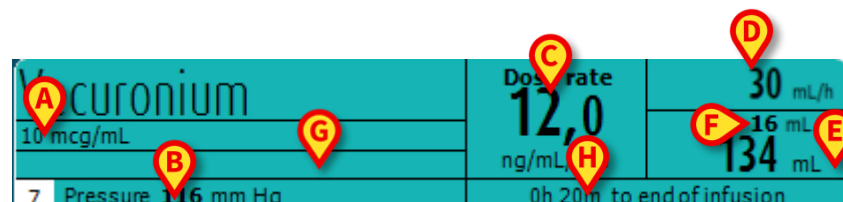

Fig 13
The box representing the pump (Fig 13) can display different kinds of data.
- drug concentration (Fig 13 **A**);
- circuit pressure (Fig 13 **B**); In the configuration a “pressure threshold” can be set up. When this threshold is exceeded the Pressure value is displayed in yellow.
- the dose rate (Fig 13 **C**); or the target dose when working in pharmacokinetic mode. In this case the “target” icon shown in Fig 5 is displayed as well.
- the volume rate (Fig 13 **D**);
- the total infused volume (Fig 13 **E**);
- volume remaining in the syringe (Fig 13 **F**).
- drug profile, if specified (Fig 13 **G**);
- the time remaining to the end of the infusion (Fig 13 **H**).